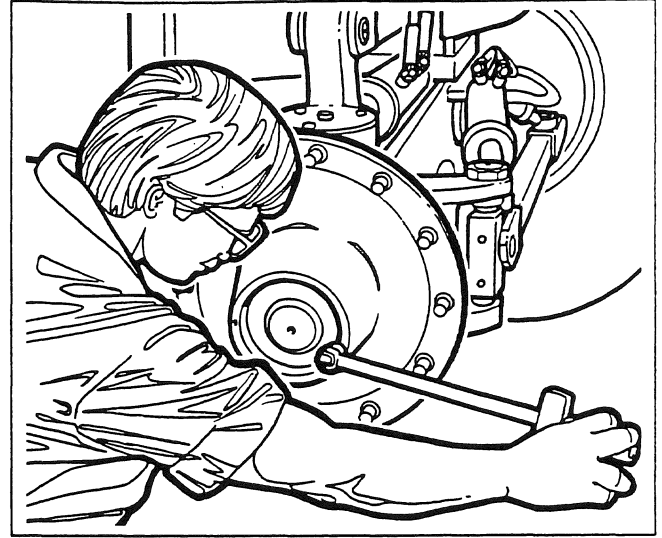

Fig. 16
2. Install a new dust seal (21), deflector spacer (22) and new V ring seal (23). Apply grease onto the spindle (20).
3. Generously lubricate the inner bearing cone (24) with grease and install it onto the spindle. Attach a safe lifting device to the wheel (26) and install it onto the spindle. Generously lubricate the outer bearing cone (28) with grease and install it onto the spindle.
4. Install the lockwasher (29). Install the inner locknut (30).
5. Install one of the hub cap bolts (34) to help determine the wheel bearing preload. Tighten the inner locknut to the specified torque or until 8 to 12 lbf·ft (11 to 16 N·m; 1,1 to 1,6 kgf·m) of torque, applied at the hub cap bolt, is needed to turn the wheel (see Fig. 16).
6. After setting the wheel bearing preload, install a new tabwasher (31). Install the outer locknut (32) and tighten to the specified torque. Bend the tabwasher tabs until they fit into the slots of both locknuts.
7. Apply a bead of silicone sealant P/N 56427 to the hub cap (33). Install the hub cap and retain it with